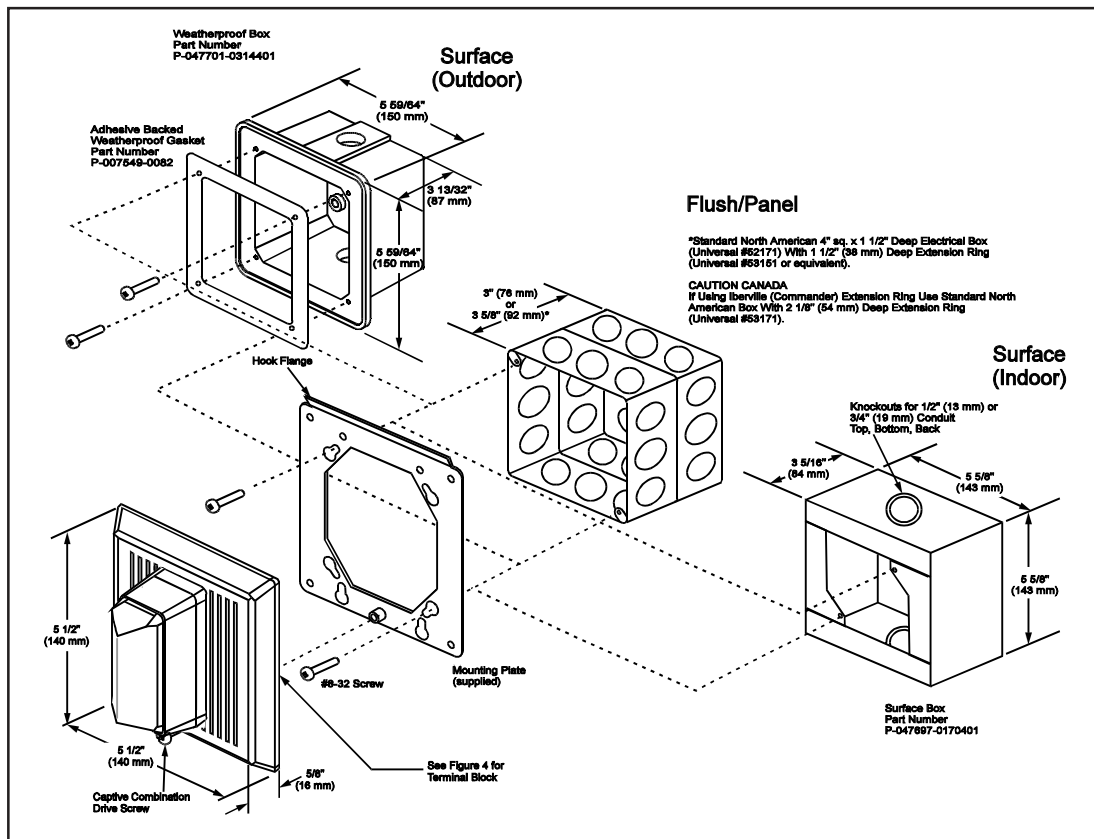

Figure 1. Detailed View
See Table 2 and Figures 1, 5 and 6 for specifications.
1. Select a mounting method as detailed in Figure 1 and install the electrical box using suitable hardware.
- a. For outdoor applications, install the weatherproof box using four #10 x 1 1/4" (32 mm) screws and caplugs provided in the enclosed parts bag. Carefully adhere the gasket, part number P-007549-0082 (provided in the enclosed parts bag) to the box as shown in Figure 1.
NOTE: Be sure hook flange is facing outward as shown in Figure 1.
6. Mount the horn/strobe assembly on the mounting plate (Figure 1).